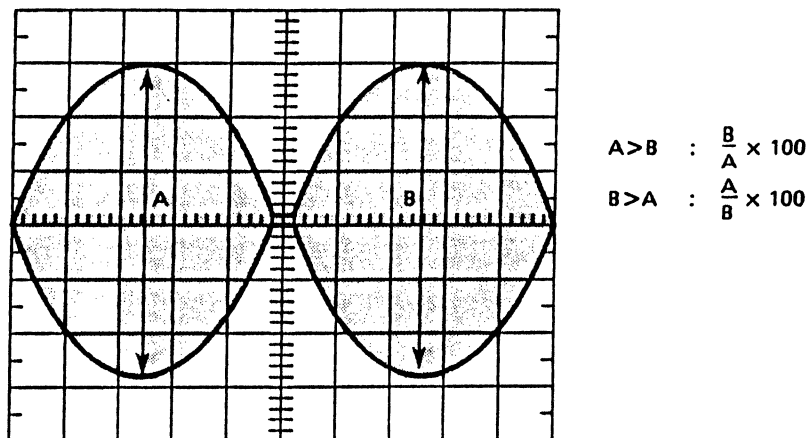

Fig. 9.2 Radial Alignment Waveforms (CATS EYE)
- (4) Check the output waveforms for sides 0 and 1. They should appear as in Fig. 9.2.
- (5) The two waveforms should appear in the amplitude ratio in the R/A column of Table 8.1 or better.
- (6) If the specified ratio is not satisfied, loosen the two mounting screws for the stepper motor.
- (7) Move the stepper motor along the base by hand until the two waveforms assume approximately the same amplitude, and retighten the mounting screws. (See Fig. 9.2.)
- (8) Step the head outward (track 0) and inward (track 40 or 79), and confirm that the adjustment has been completed.
- (9) After the radial adjustment, be sure to confirm track 00 sensor adjustment 9.9